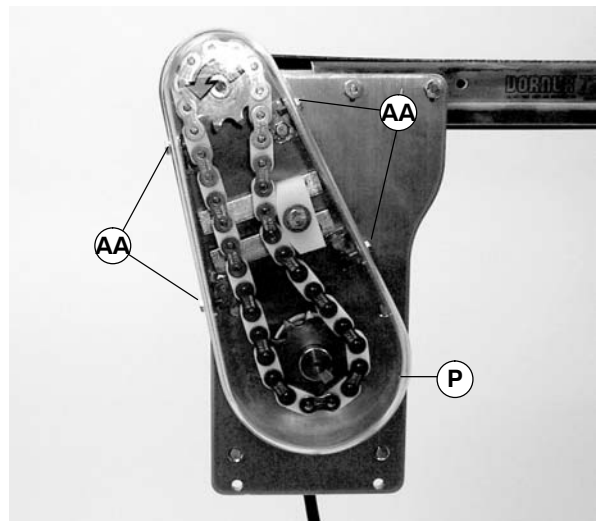

Figure 15
**NOTE:** Do not over-tension chain (AD). Only tension chain until slack is removed.
- Slide chain tensioner (AF) to take up chain slack. Tighten chain tensioner screw to 92 in-lb (10.4 Nm).
**NOTE:** Do not over-tighten screws (AA of Figure 15).
- Install cover (P of Figure 15) and tighten four screws (AA) to 35 in-lb (4 Nm).